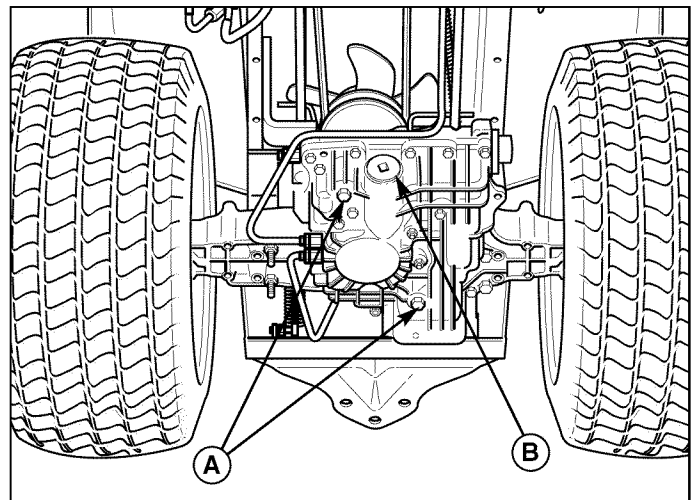

Figure 38. Transmission Drain Plugs
1. Place a drain pan under the transmission and remove the two 14mm drain plugs (A, Figure 38).
3. Remove the filter access cap (B, Figure 38).